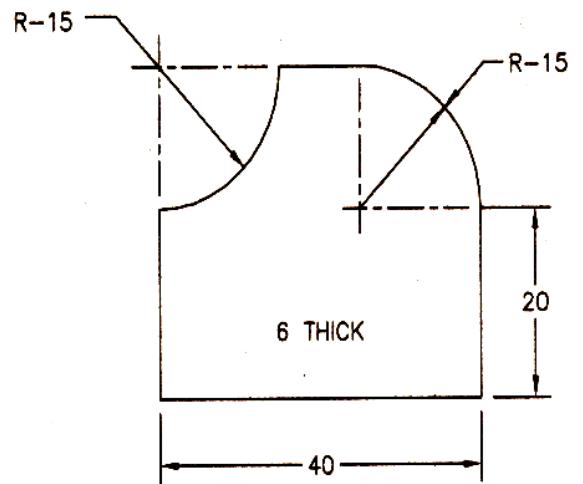

Figure-2
- (d) Write a CNC part program for the component shown in figure-2, to be produced on CNC machining centre. **04**